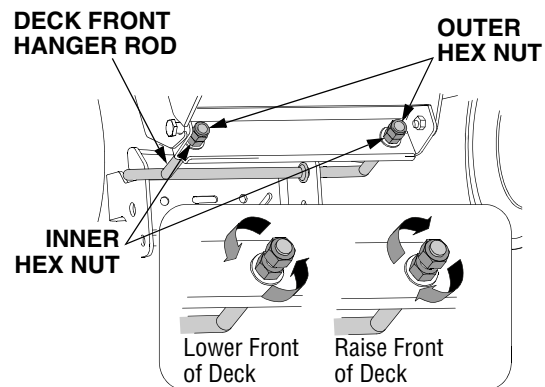

Figure 33
- From the front of the tractor, loosen the outer nuts on the deck front hanger rod, and turn them away from the inner nuts. (Refer to Figure 33).